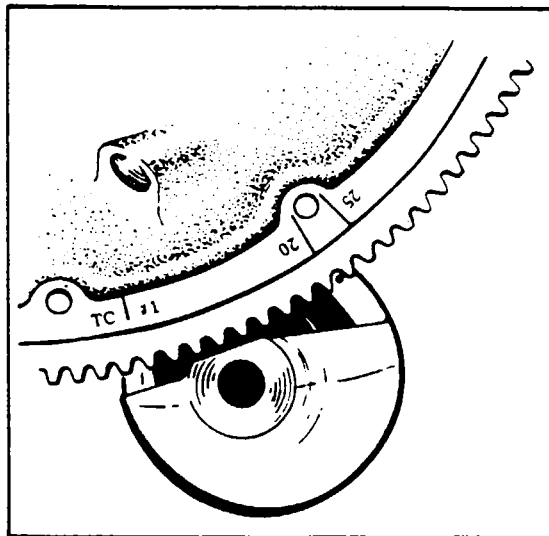

Figure 8-11. Engine Timing Marks
b. Continue turning the crankshaft until the 20° advance timing mark is in alignment with the small hole located on the top face of the starter housing at the two o'clock position. (Refer to Figure 8-11.)